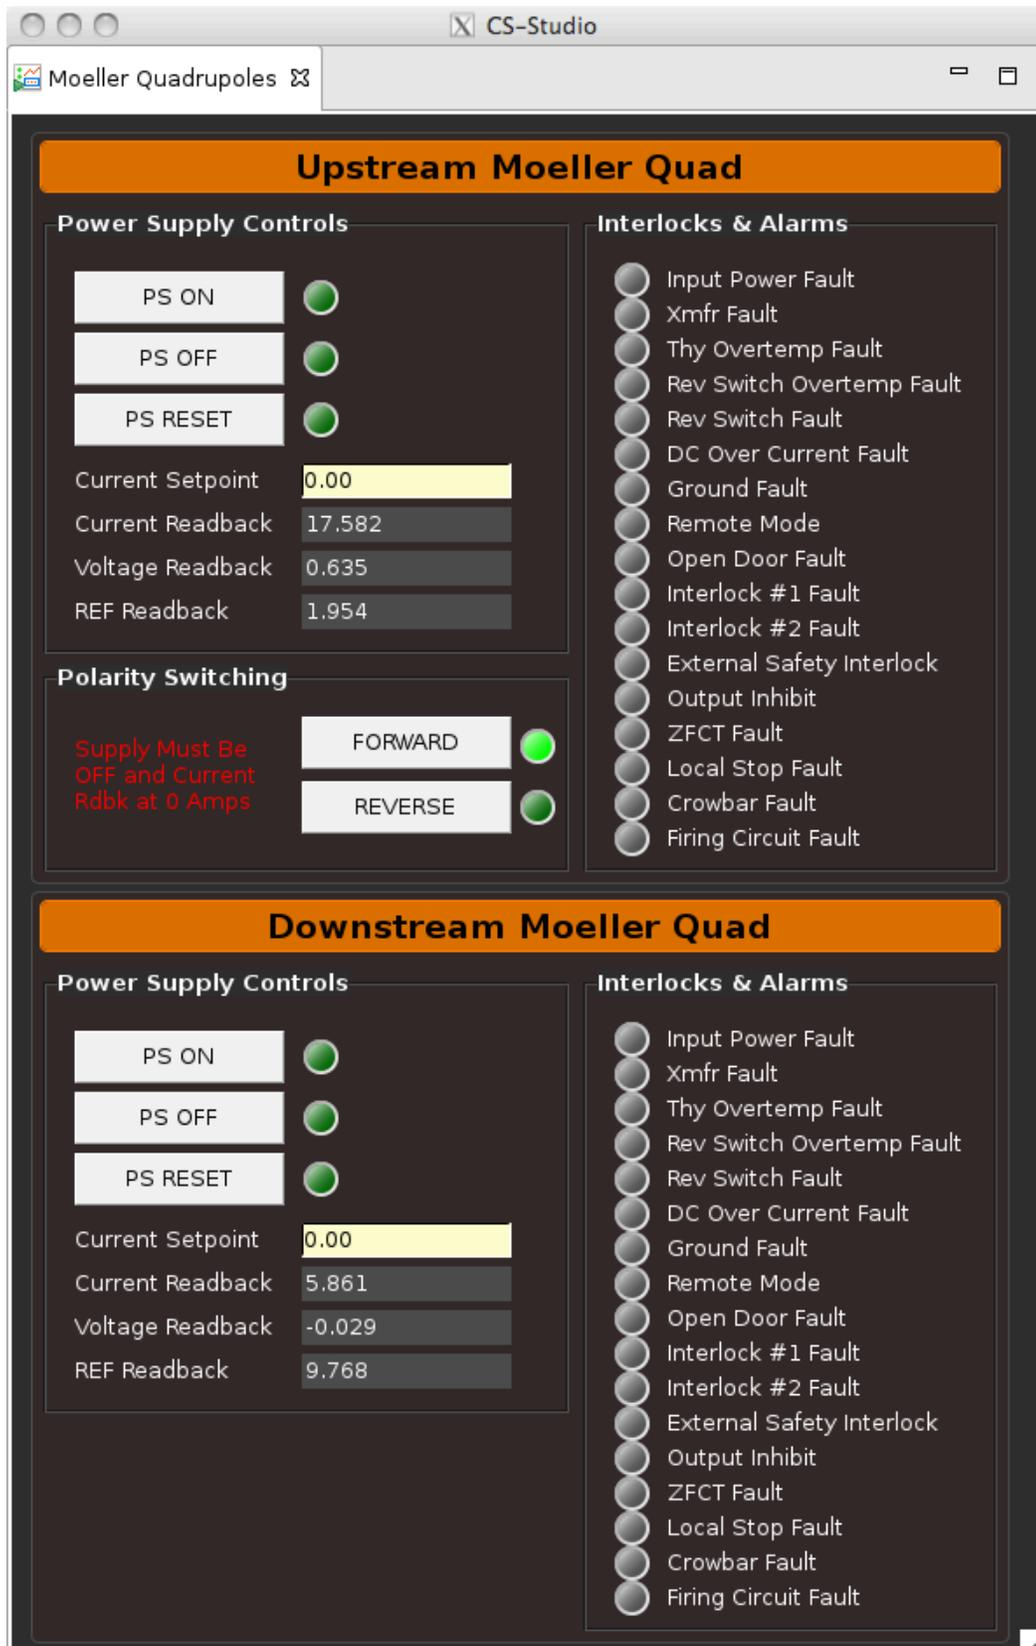

Figure 2: Control GUI for the Möller quadrupole power supplies.
- The control for Möller quadrupole power supplies are provided in "Moeller Quadrupoles" GUI, see Fig.2. Power supplies will be turned ON and in remote before hall closing. From GUI one should first turn them on by pushing the "PS ON" buttons, then set the desire value for currents in "Current Setpoint" window. For 10.7 GeV the suggested value for the quadrupoles is 3050 A, for 6.4 GeV suggested current is 1350 A.